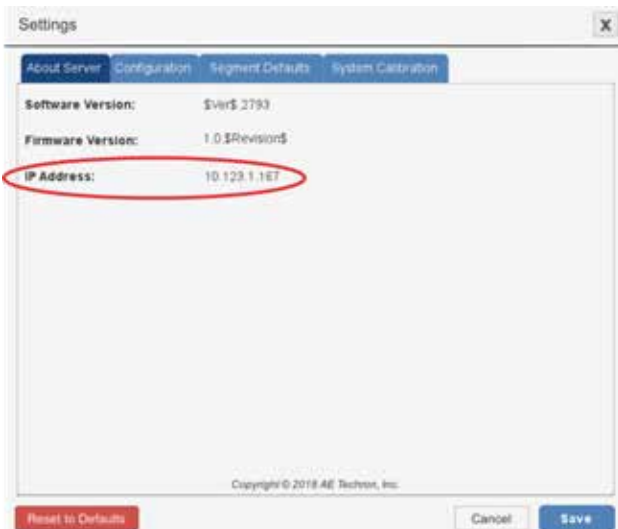

Figure 4.3 – 3110A IP Address Listing
- Switch on the DSR system or 3110A and amplifier, and wait for the 3110A's interface to load (this can take up to 30 seconds). Press the Settings button to open the Settings window, and then select the **About Server** tab. Note the IP address shown in the IP Address section, and write it down for later reference. See **Figure 4.3**. Press the Cancel button to close the Settings window. **NOTE:** If the Service Endpoint box is blank or contains the IP address 0.0.0.0, then the 3110A/DSR system is not connected to your network. Check your Ethernet connection or contact your network administrator for assistance.